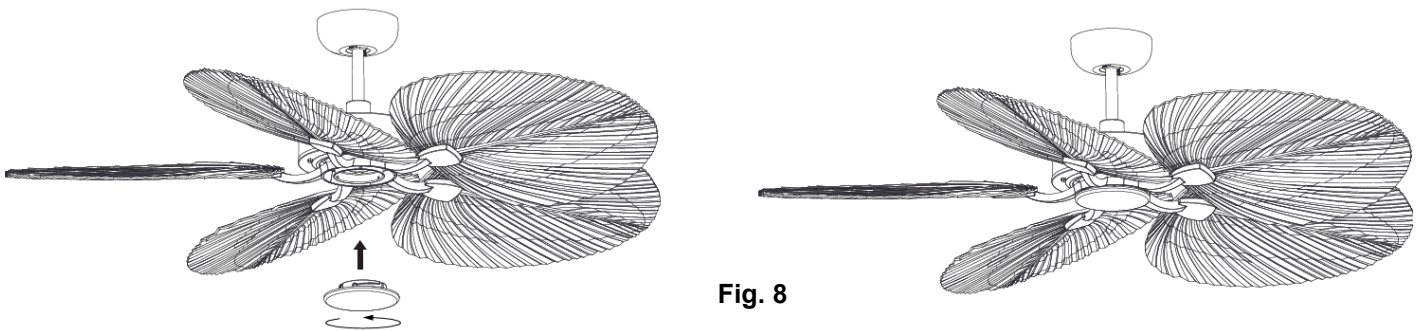

Fig. 8
**INSTALLATION OF Non-Light decoration plate (Fig. 8)**